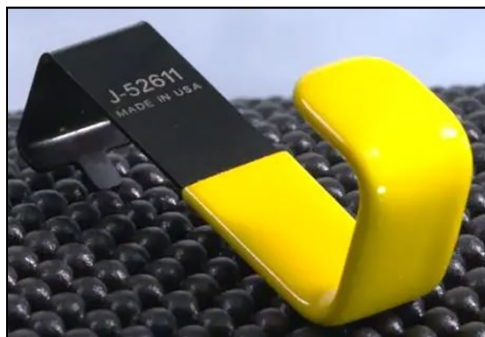
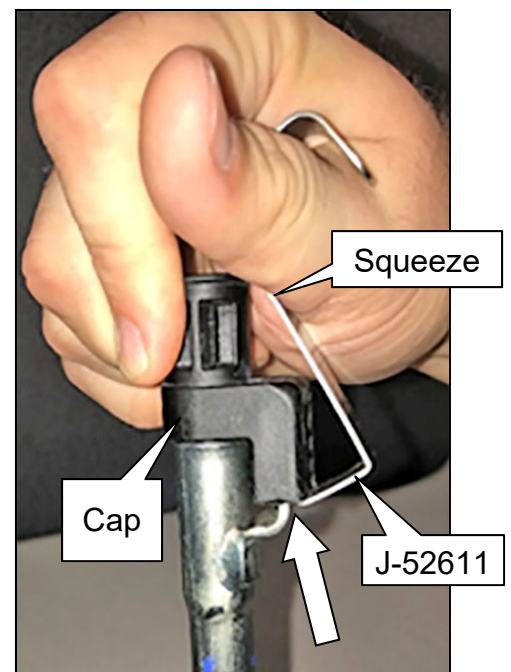
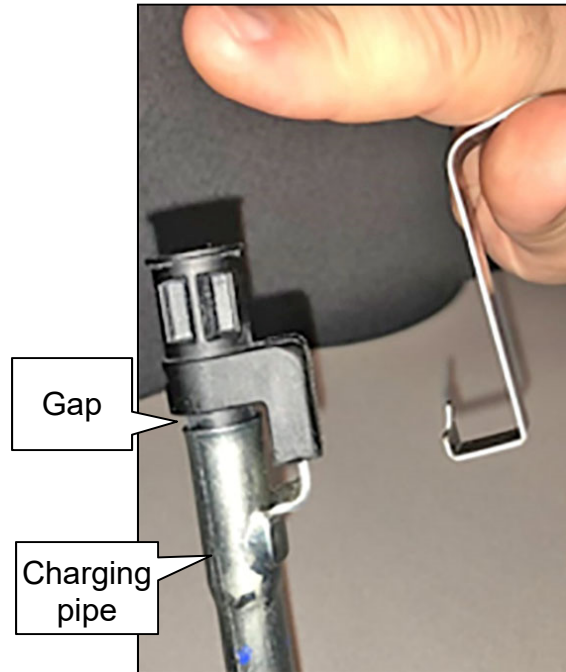

Figure 2
Figure 3
Figure 4
7. Install special tool CVT Charge Pipe Cap Release (J-52611) where shown in Figure 3.
**NOTE:** The tool shown in Figure 3 and Figure 4 is the same as the one shown in Figure 2, but looks slightly different.
8. Squeeze the tool toward the cap, and then slightly lift the cap (see Figure 3).
- Notice the gap between the cap and charging pipe in Figure 4.